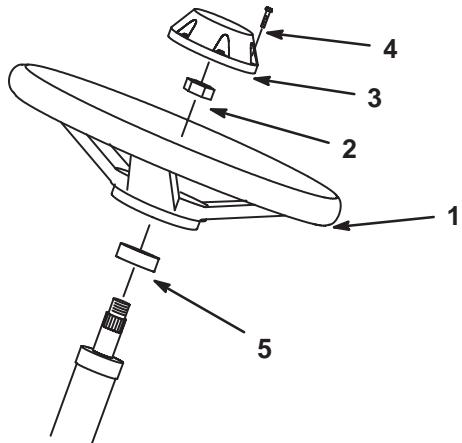

Figure 5
2. Remove jam nut from steering shaft. Slide foam seal and steering wheel onto steering shaft (Fig. 5).
4. Install cap to steering wheel with screw (Fig. 5).